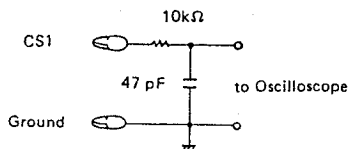

Fig. 8 Chroma Pad
- (1) Feed in a PAL "DEM" signal (Philips Model PM5509 or PM5519.)
- (2) Set the COLOR Control to the maximum position.
- (3) Connect an oscilloscope (0.5V/cm range) to CS1 (R-Y demodulator output) on the MAIN PWB via the pad shown in Fig. 8.